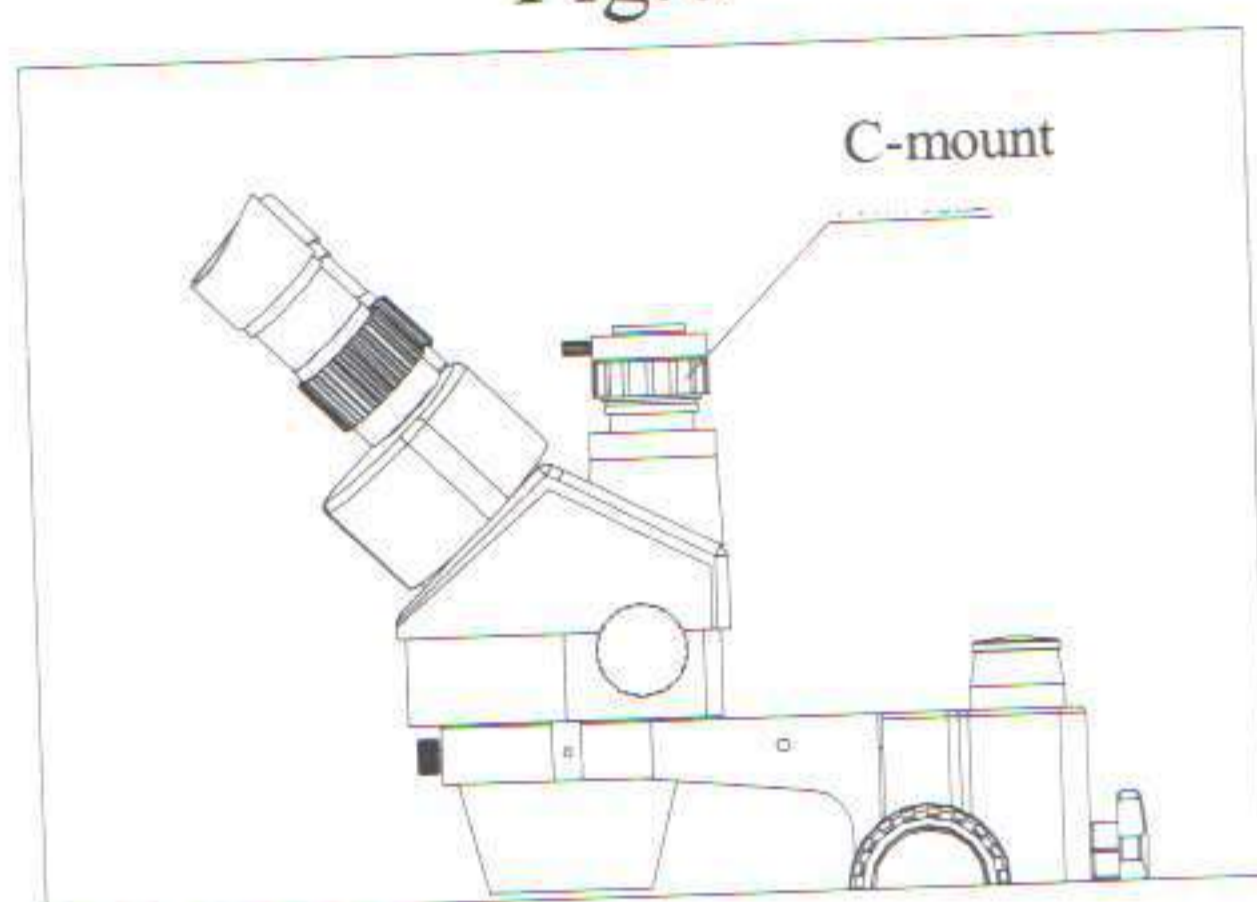

Fig.9
- Note:** The range of the adjustment: 1~2mm in general.(Fig.9)